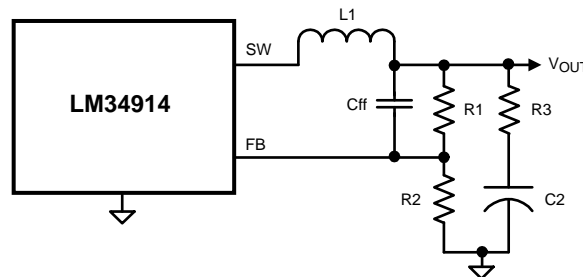

Figure 11. Reduced Ripple Configuration
**a) Reduced ripple configuration:** In Figure 11, Cff is added across R1 to AC-couple the ripple at VOUT directly to the FB pin. This allows the ripple at VOUT to be reduced to a minimum of 25 mVp-p by reducing R3, since the ripple at VOUT is not attenuated by the feedback resistors. The minimum value for Cff is determined from: